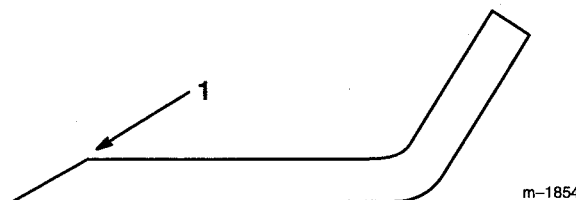

Figure 15
1. Use a file to sharpen the cutting edge at both ends of the blade (Fig. 15). Maintain the original angle. The blade retains its balance if the same amount of material is removed from both cutting edges.